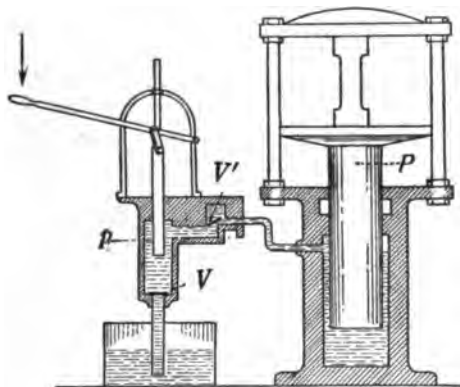

FIG. 20.—Cross-section of a hydraulic press.
**41. Hydraulic Press.**—An important application of Pascal's principle is the *hydraulic press*. See Fig. 20. It is used for many purposes where great force is required, as in pressing paper or cloth, extracting oil from seeds, lifting heavy objects, etc. Many high school pupils have been seated in a *hydraulic chair* used by a dentist or barber. This chair is a modified hydraulic press.
The hydraulic press contains two movable pistons,  $P$  and  $p$  (see Fig. 20). The larger of these,  $P$ , has a cross-sectional area that may be 100 or 1000 times that of the smaller. The smaller one is moved up and down by a lever; on each upstroke, liquid is drawn in from a reservoir, while each down-stroke forces some of the liquid into the space about the large piston. Valves at  $V$  and  $V'$  prevent the return of the liquid. If the area of  $P$  is 1,000 times